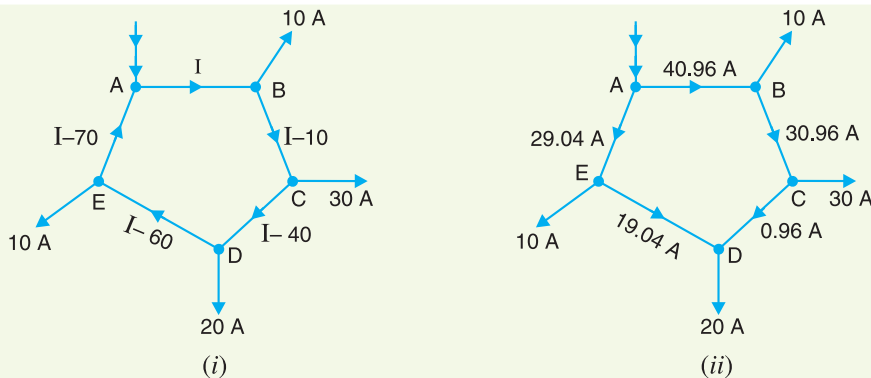

Fig. 13.44
**Solution.** When interconnector BD is removed, let the current in branch AB be  $I$ . Then current distribution will be as shown in Fig. 13.44 (i). As the total drop round the ring ABCDEA is zero,
The actual distribution of currents will be as shown in Fig. 13.44 (ii).